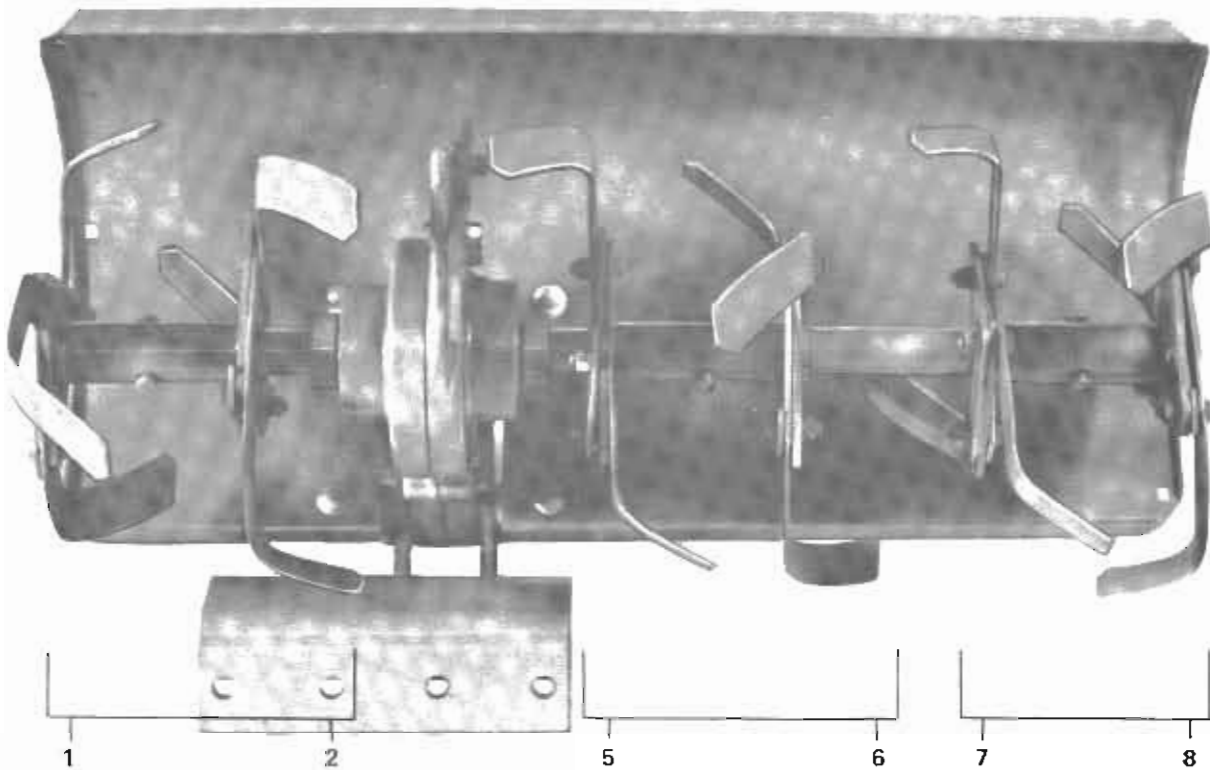

FIGURE 11 TILLER REDUCED TO BASIC 32" WIDTH (TINE SECTION 3 and 4 IS REMOVED)
1. 32" Tilling Width - Remove tine section "3 and 4" and relocate section "1 and 2" next to left side of chain case as shown in Figure 11. This reduces the tiller to a basic 32" cutting width with the right wheel track tilled out.